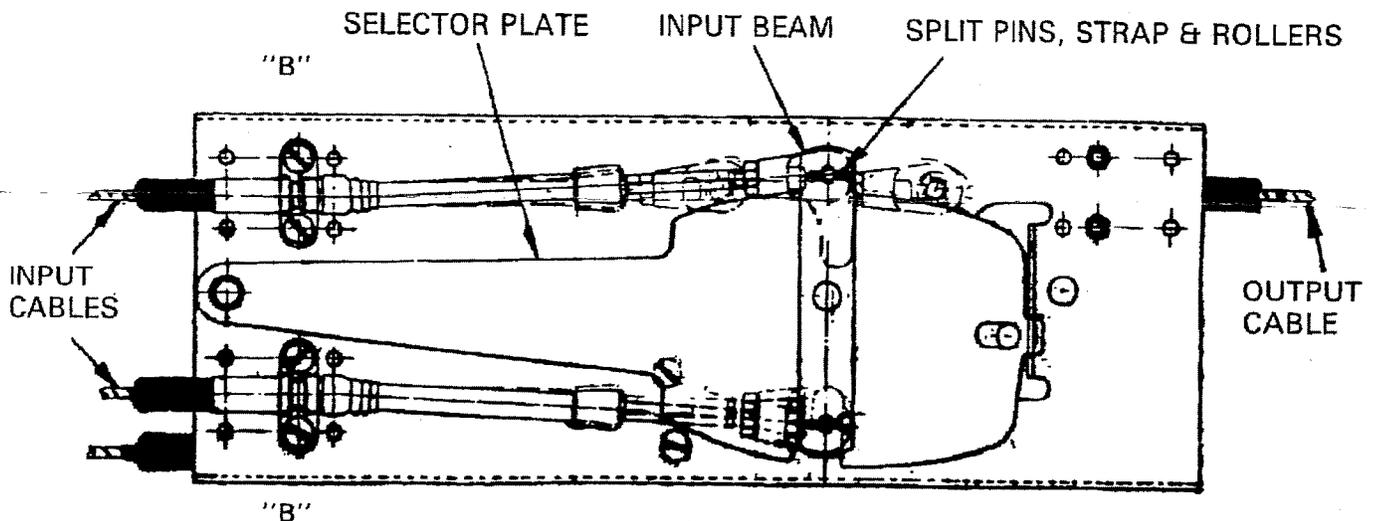
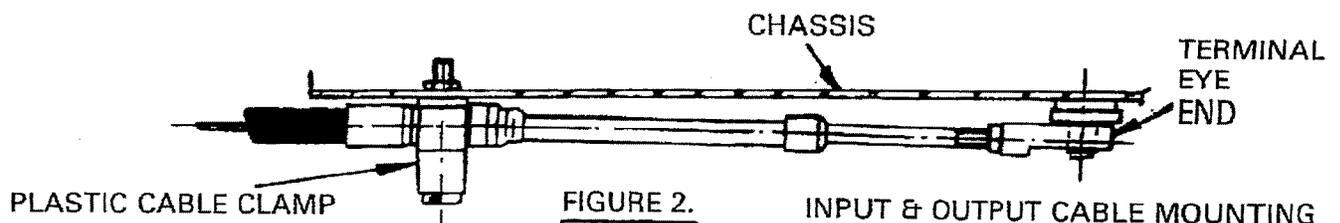
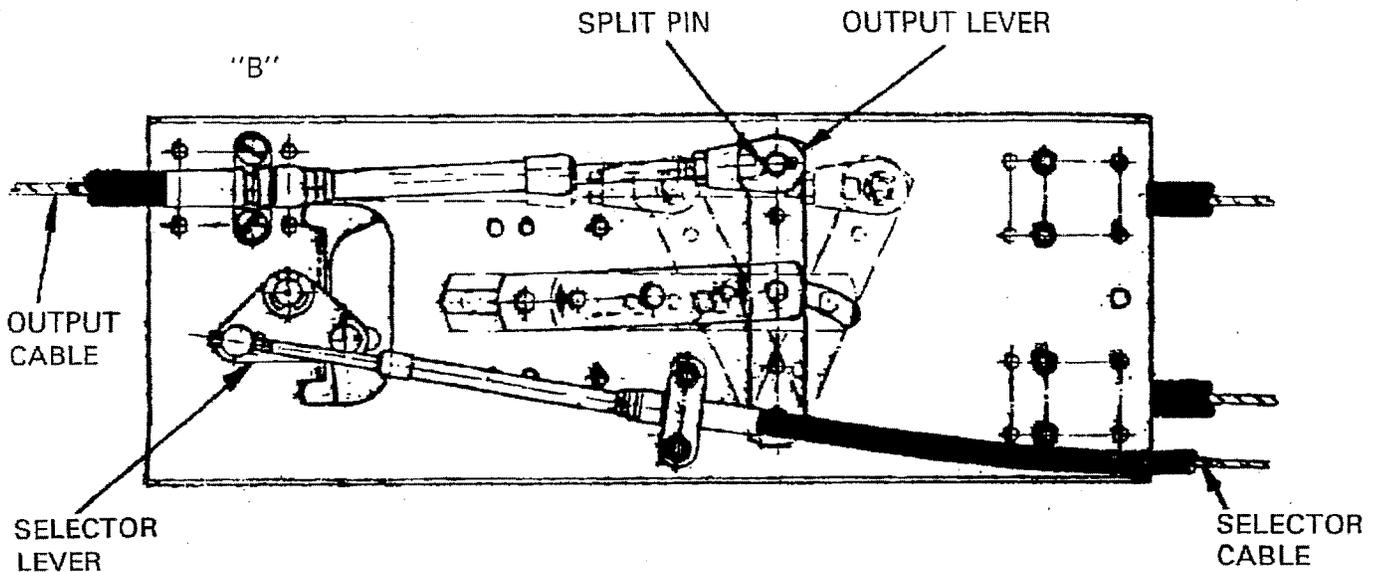

FIGURE 1. FRONT VIEW OF UNIT IN NEUTRAL POSITION
FIGURE 2. INPUT & OUTPUT CABLE MOUNTING
FIGURE 3. REAR VIEW OF UNIT IN NEUTRAL POSITION
When used with Single Lever Controls to operate GEAR, mount the cables in positions marked "B" on the chassis as shown in figures 1 & 3.
Remove split pins, strap and rollers figure 1.
Secure cable hubs to unit using plastic cable clamps, pan head M5 screws and nuts provided, in position "B" figure 1 and as shown in figure 2.
3. Lock the input beam using two 5 mm dia. pins (not included) in the neutral (central) position as shown in figure 1, enter pins from the rear of the unit.
Secure cable hub to unit using plastic cable clamp, pan head M5 screws and nuts provided, in position "B" figure 3 and as shown in figure 2.
5. Route selector cable to unit shown in figure 3. (Selector control head see separate instructions).
Secure cable hub to unit using plastic cable clamp, contersunk head M5 screws and nuts provided, in position as shown in figures 3 and 4.
Connect cable to selector lever in position as shown in figure 3 and secure with split pin.